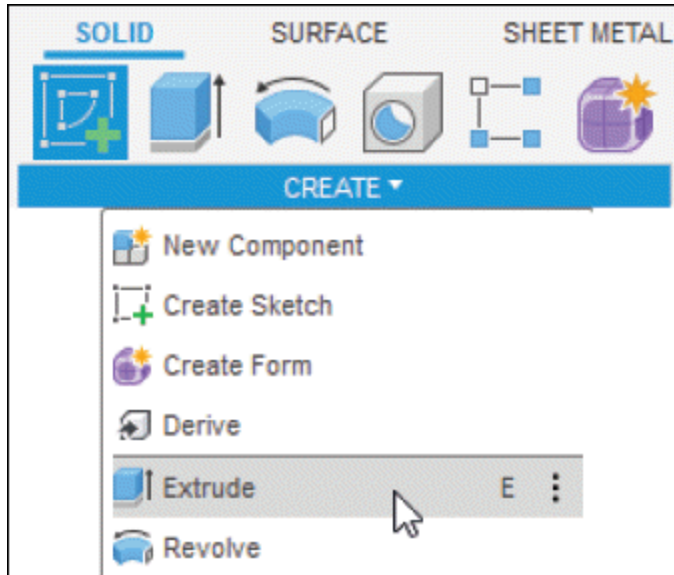
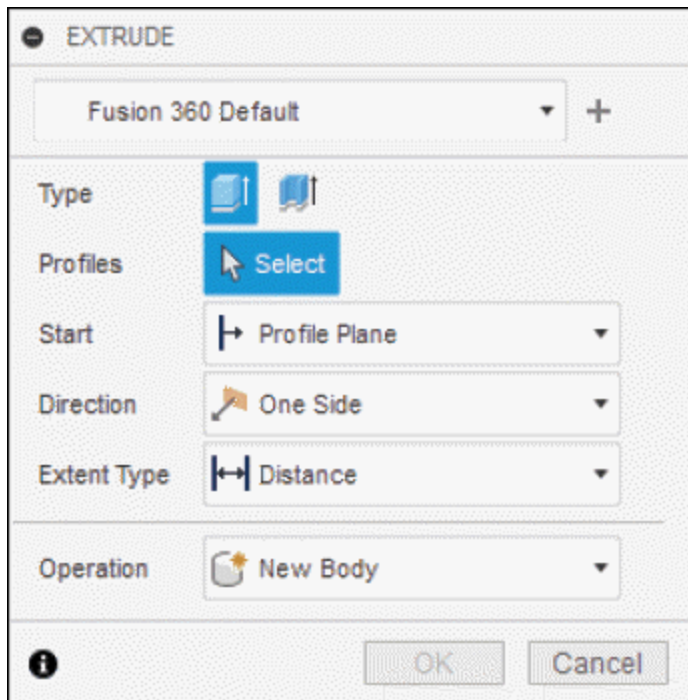

Figure-30. Extrude tool
Figure-31. EXTRUDE dialog box
- Click on **Extrude** tool of **Create** drop-down from **Toolbar**; refer to Figure-30. The **EXTRUDE** dialog box will be displayed; refer to Figure-31.